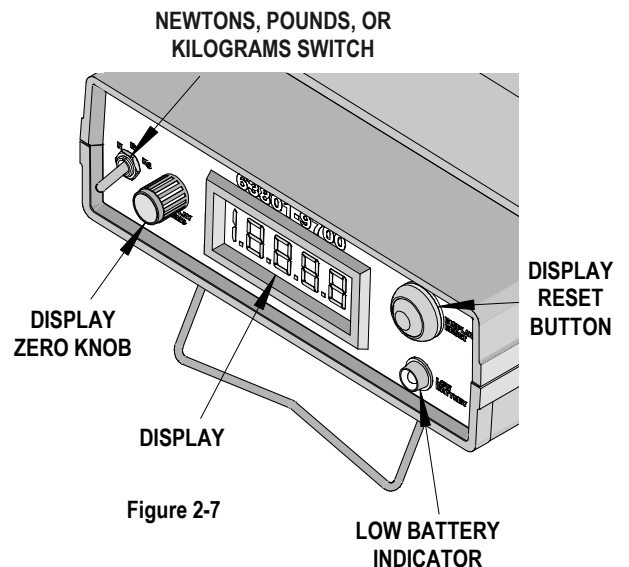

Figure 2-7
6. Select the desired units for testing (lbs, kg, N) using the selector switch on the front of the meter box. See Figure 2-7.
7. Zero the display by turning the *display zero knob* fully counter clockwise. Momentarily press the *display reset button*, then slowly turn the *display zero knob* until the display reads -000.0 or 000.0. Press the *display reset button* to ensure the display holds -000.0 or 000.0. See Figure 2-7.
5. Select the desired units for testing (lbs, kg, N) using the selector switch on the front of the meter box. See Figure 2-7.
6. Zero the display by turning the *display zero knob* fully counter clockwise. Momentarily press the *display reset button*, then slowly turn the *display zero knob* until the display reads -000.0 or 000.0. Press the *display reset button* to ensure the display holds -000.0 or 000.0. See Figure 2.7.